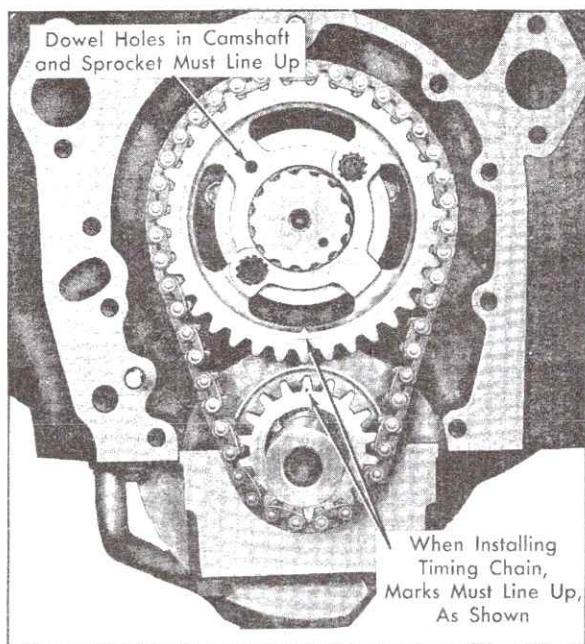

Fig. 6-149 Timing Gear Locating Marks
4. Place chain over crankshaft sprocket and line up timing marks on both sprockets as shown in Fig. 6-149.